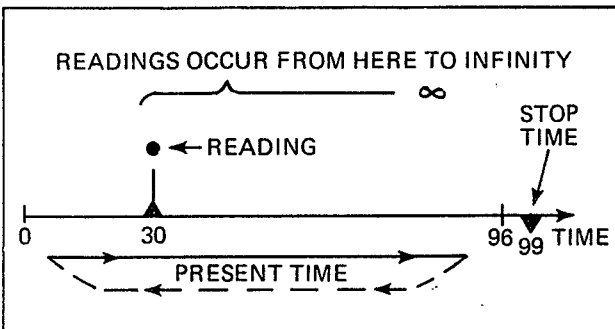

Figure 3.10 - Setting Stop Time at Infinity
3.4.11.7 Since the Present Time resets to zero at 96 hours, it is possible to set the Stop Time (or any other time register) at "infinity" on the time scale by storing a number greater than 95.5959 to the register in question. An example is shown in Figure 3.10, where the start time has been set to 30 hours and the stop time has been set to 99 hours, placing it "out of range" of the present time register. With these start/stop settings, reading(s) would begin at 30 hours and continue forever under control of the Interval, Subinterval and N registers.